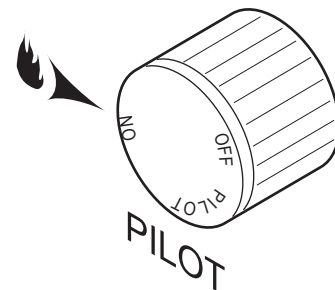

Figure 49 -
Depress and turn the knob counterclockwise  to the “ON” position. *Figure 49*. It will take less than four (4) seconds for the burner to ignite.